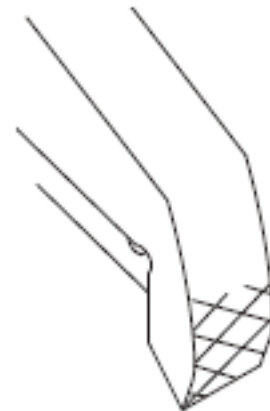

FIGURE 6-2
6. To hardsurface the front of the upper shear, begin on the piercing tip to approximately half way up the front, apply single passes of Amalloy 814 rod or equivalent in a diamond pattern of approximately one inch (38mm) (see figure 6-2). Peen each pass.